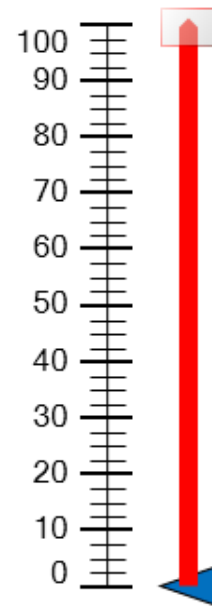

Figure 2 - Scale Control and polygon with Location Dynamic
7. Add a **Location** Dynamic the Polygon so that it starts at the bottom and ends at the top of the scale as shown in Figure 2.